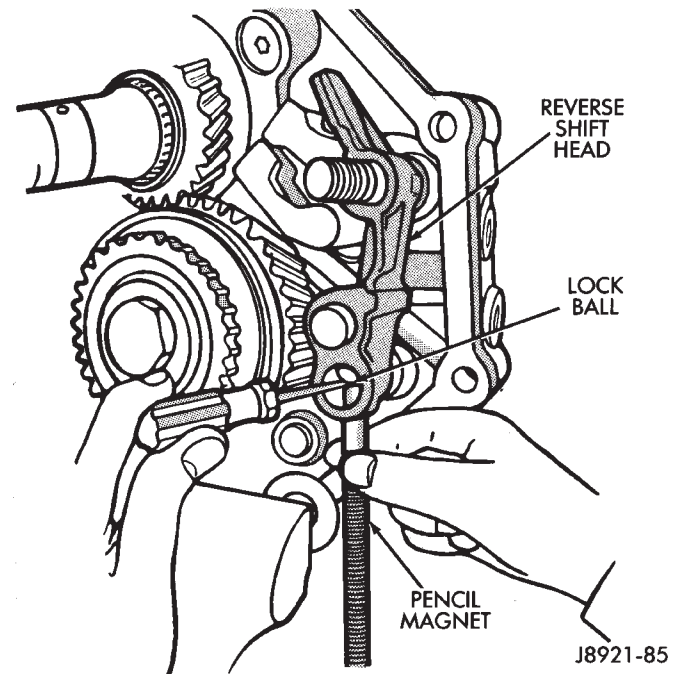

Fig. 78 Installing Reverse Shift Head Lock Ball
(14) Install reverse shift head lock ball with screwdriver and pencil magnet (Fig. 78).